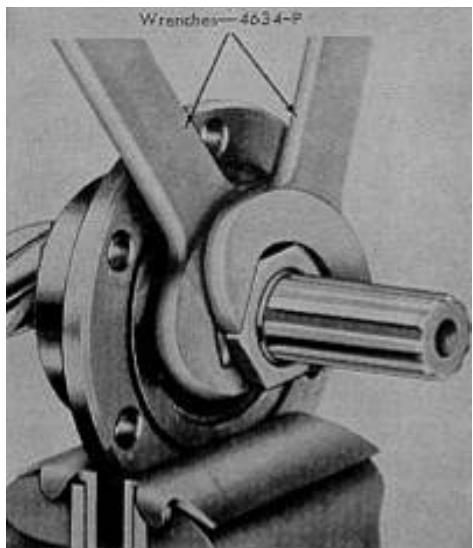
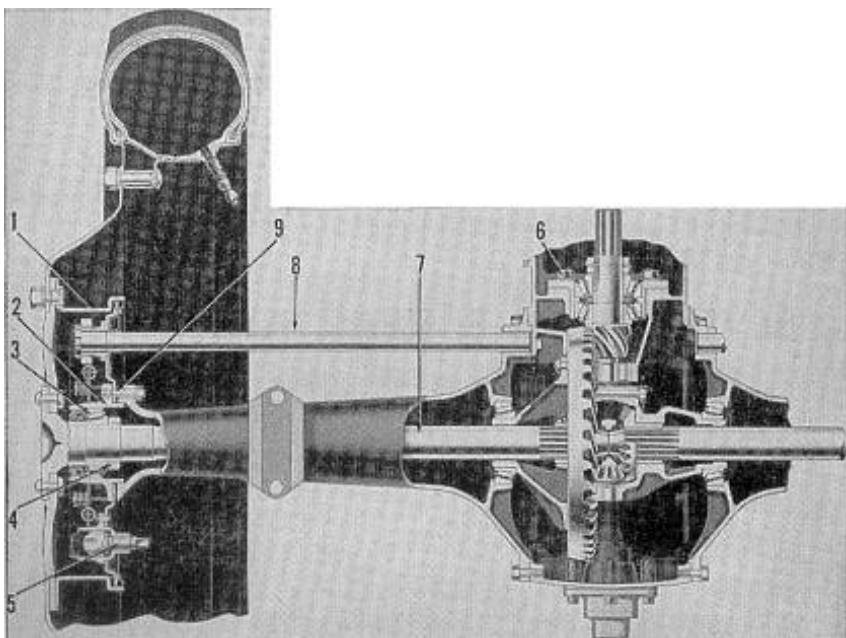

Fig. F066 - Adjusting bearings of main drive bevel pinion.
Fig. F067 - Rear axle and differential assembly as used on models 2N-9N. The 8N is similar except details of brakes and wheel axle shafts.
86. BEVEL PINION. To remove main drive bevel pinion, first separate rear axle center housing from transmission as outlined in paragraph 70A and remove hydraulic power lift and pump units. Unscrew six mounting cap screws (6-Fig. F067) and move pinion and bearing carrier out toward front, using a suitable puller. Disassemble pinion and bearing assembly and renew worn or damaged parts. Reassemble pinion and bearings and adjust bearings as shown in Fig. F066 until a torque of 12 to 16 inch pounds is required to turn pinion. After adjustment, bend tabs on lockwasher to secure shaft nuts. If rear pinion bearing is to be renewed, differential unit must be removed to provide necessary clearance.